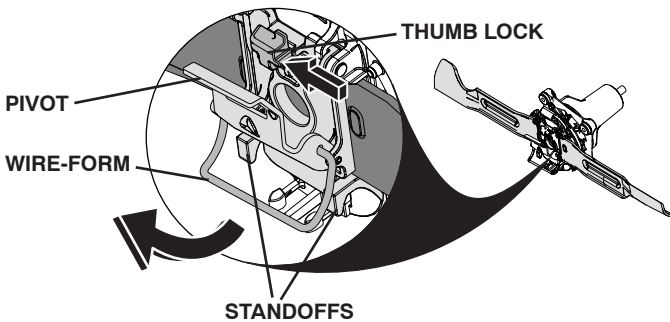

Fig. 31
- Slide thumb lock and release pivot to allow wire-form to swing free from standoffs. (See Fig. 31.)